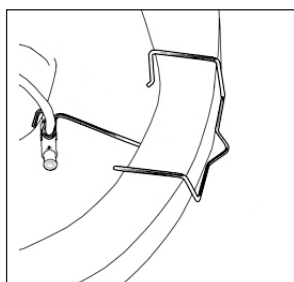

Figure 3
5) Remove Cap from the end of the Drain Line and place Anchor on Commode Rim. (Figure 3)